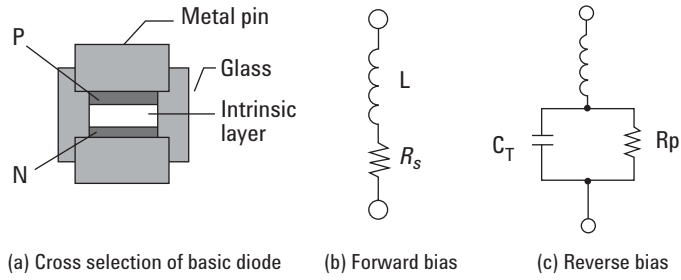

Figure 3. PIN diode equivalent circuits
PIN diodes are another mainstream switching technology. The PIN diode structure consists of an intrinsic (I) layer with very high resistivity material sandwiched between regions of highly doped positively (P) charged and negatively (N) charged material as shown in Figure 3(a).
When the PIN diode is forward biased, positive charges from the P region and negative charges from the N region are injected into the I-layer increasing its conductivity and lowering its resistance. Figure 3(b) shows the equivalent circuit with the PIN diode forward biased. L is the parasitic inductance and R_s is the series resistance, approximately $1 \, \Omega$ depending on the biasing applied and the PIN diode structure.
With reverse or zero biasing, the I layer is depleted of charges and the PIN diode exhibits very high resistance (R_p) as shown in Figure 3(c). C_T is the total capacitance of the PIN diode which is the sum of the diode junction capacitance (C_{J0}) and the parasitic capacitance (C_p). Capacitance limits switch performance at high frequencies in the form of isolation roll-off and increased insertion loss. A low capacitance diode may help improve performance at higher frequencies.